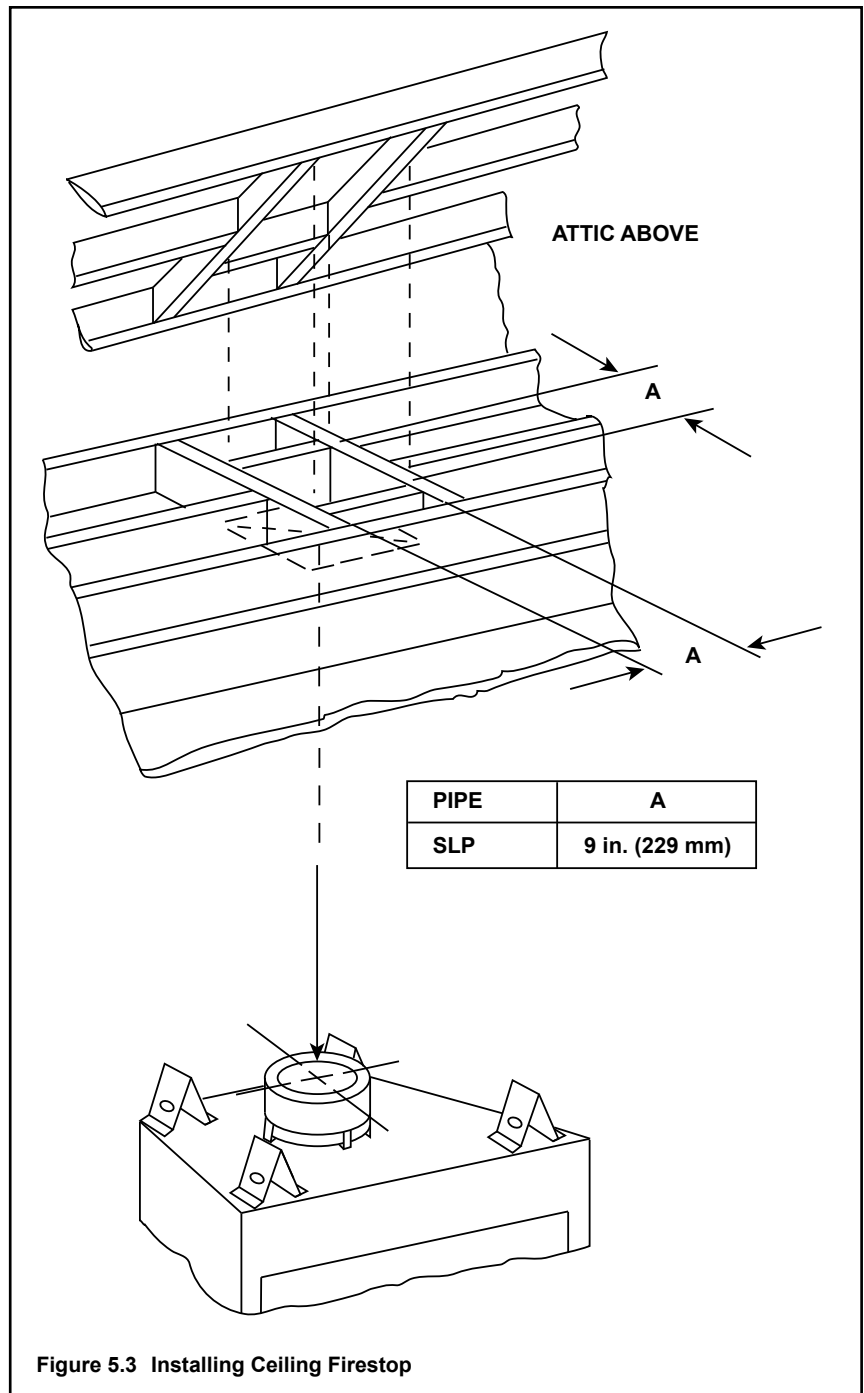

Figure 5.3 Installing Ceiling Firestop
- **SLP pipe only** - Frame opening 9 in. x 9 in. (229 mm x 229 mm) whenever the vent penetrates a ceiling/floor (see Figure 5.3).